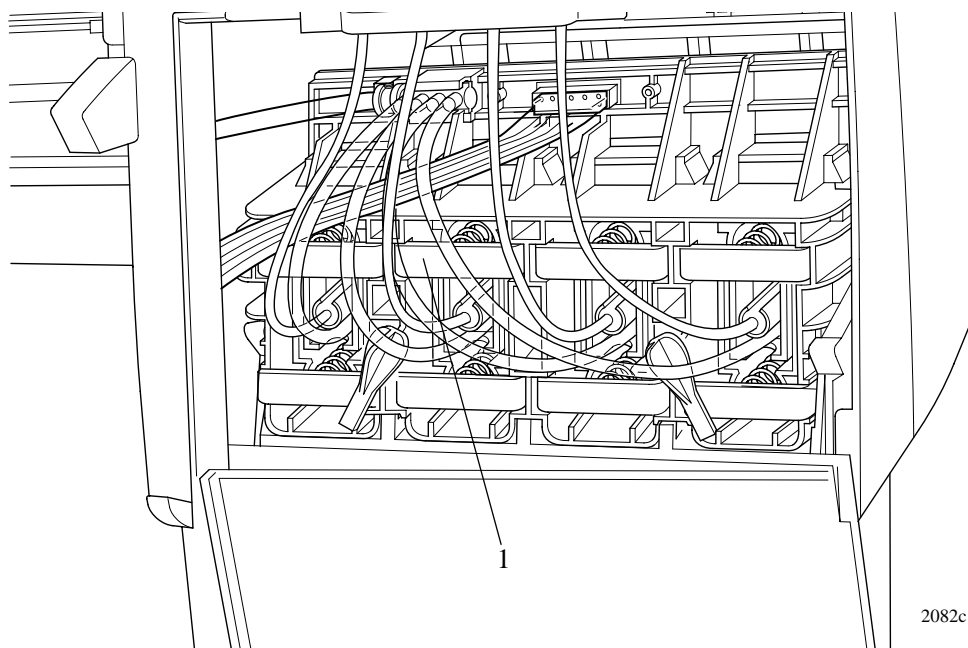

Figure 66: Ink Cartridge Tube Connector (pulled back)
- 10.** Slide the ink cartridge tube connector assembly (item 1) towards you (refer to Figure 66).